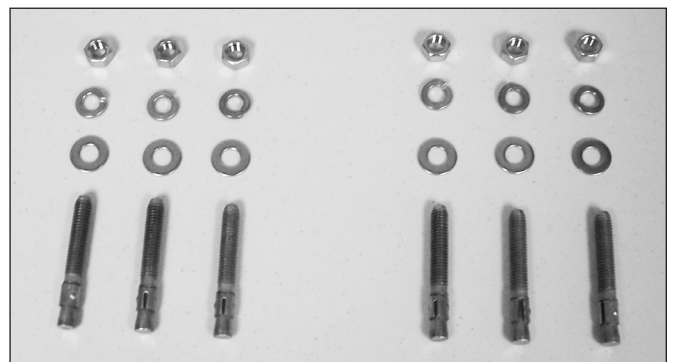

Figure 8
**STEP THREE:** Use 3/8" wedge anchors supplied in kit WS-DM (as shown in Fig. 8). Gentle tap in all six (6) wedge anchors (3 per hole) and set the poles in place. Using a flat washer, lock washer, then a nut, tighten all six (6) anchor bolts to deck.